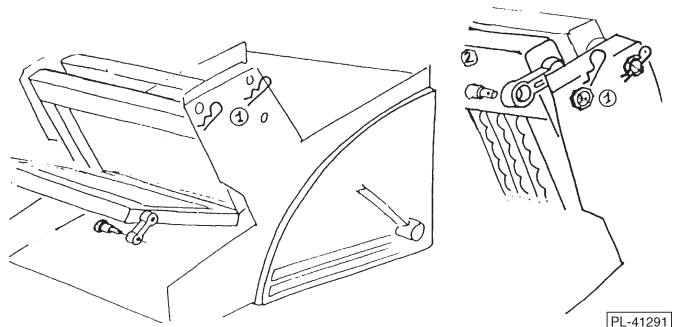

Fig. 14
- Secure the Front Blade Frames (Fig. 14):